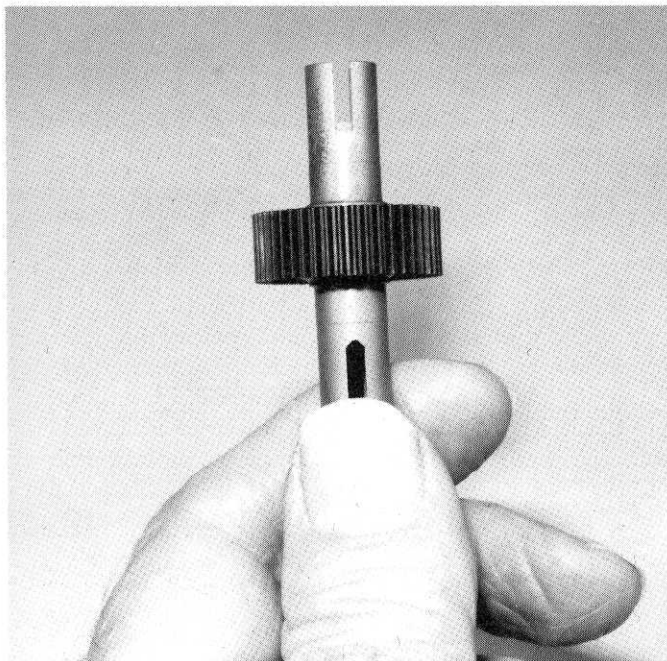
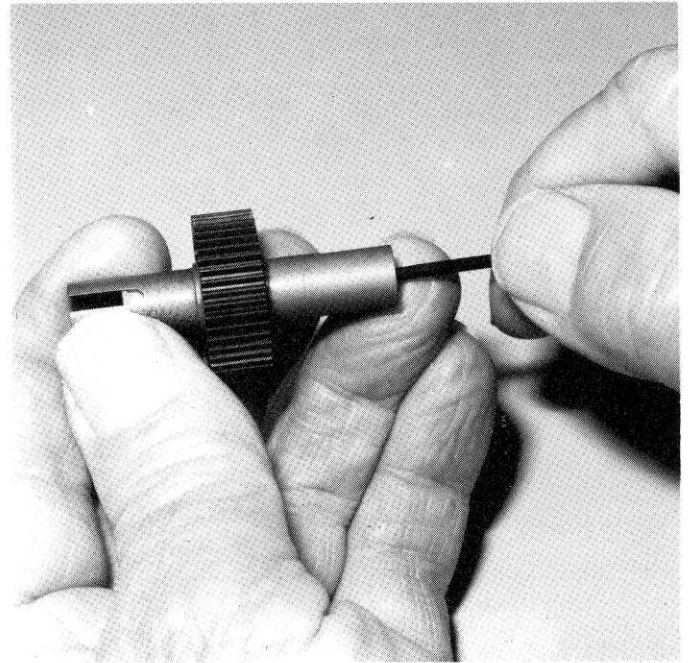

Fig. 45
Fig. 46
□ **Fig. 45** Now start to tighten the bolt with the Allen wrench, making sure the hubs and drive rings stay centered. Do this very slowly. We want to make sure everything stays centered. We'll finish the tightening in the next step with figs. 46 & 47.
□ **Figs. 46 & 47** Continue tightening slowly until the spring is just about completely collapsed. DON'T OVER-TIGHTEN! Correct adjustment is bottoming the spring and then backing off 1/8 to 1/4 turn.